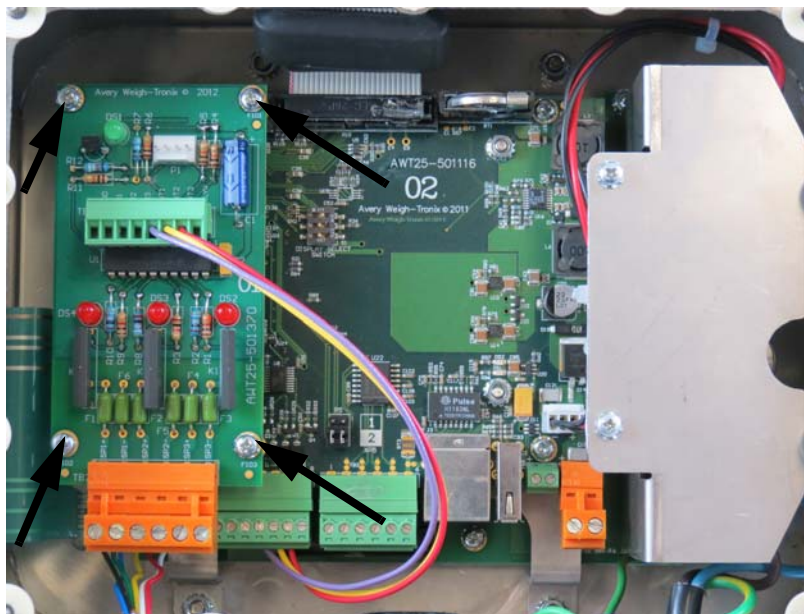

Figure 8.9 AC Relay option module on main board
1. Plug the option module into terminal J4 on the main board. See Figure 8.9. Use the included standoffs and screws to fasten the module to the main board at the four locations noted by the arrows.
These wires are shown in place in Figure 8.9.